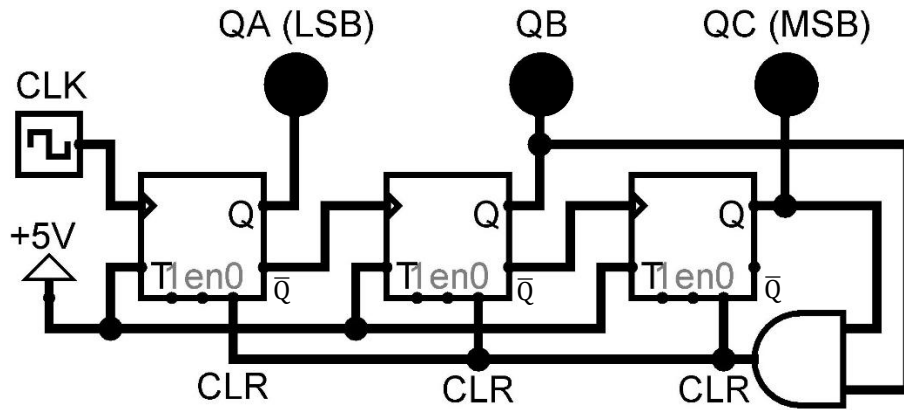

Figure 2(a)
- (a) Figure 2(a) shows the logic circuit diagram of an asynchronous counter, which uses positive edge-triggered T flip-flops with labelling of  $Q_A Q_B Q_C$  where  $Q_C$  is MSB and  $Q_A$  is LSB.
- (i) Verify if the counter operation of Figure 2(a) is working as an up counter or down counter. Also, state the modulus and function of this counter. (5 marks)
Input Y will be used as the up/down control. The counter will count from  $0 \Rightarrow 2 \Rightarrow 4 \Rightarrow 3 \Rightarrow 7 \Rightarrow 1 \Rightarrow 6 \Rightarrow 5 \Rightarrow 0$  when input,  $Y = 0$  and  $0 \Rightarrow 5 \Rightarrow 6 \Rightarrow 1 \Rightarrow 7 \Rightarrow 3 \Rightarrow 4 \Rightarrow 2 \Rightarrow 0$  when input,  $Y = 1$  as shown below in Figure 2(b). Flip-flop  $D_A$  has output  $Q_A$ , flip-flop  $J_B K_B$  has output  $Q_B$  and flip-flop  $S_C R_C$  has output  $Q_C$ .